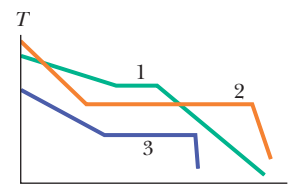

Figure 18-28 Question 9.
**9** Three different materials of identical mass are placed one at a time in a special freezer that can extract energy from a material at a certain constant rate. During the cooling process, each material begins in the liquid state and ends in the solid state; Fig. 18-28 shows the temperature  $T$  versus time  $t$ . (a) For material 1, is the specific heat for the liquid state greater than or less than that for the solid state? Rank the materials according to (b) freezing-point temperature, (c) specific heat in the liquid state, (d) specific heat in the solid state, and (e) heat of fusion, all greatest first.